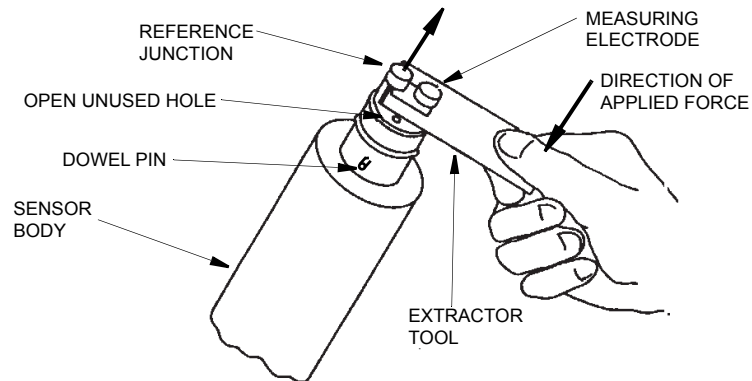

Figure 15. Removing the Reference Junction
3. Slide the extractor tool (beveled edges up) into position as shown in Figure 15. Note that the edges fit into the reference junction retaining slot.